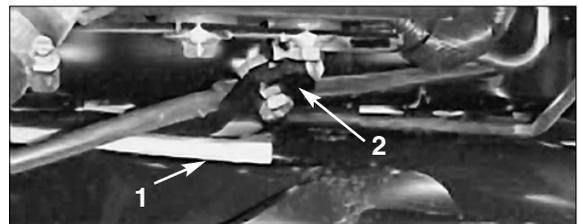
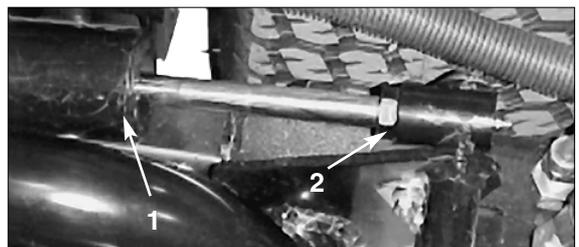

Figure 4
Figure 5
3. Start the engine, raise the decks and check to make sure clearance between the wear strap on top of the rear cutting unit wear bar and the bumper strap is 0.51–2.54mm (.020”–0.10”) (Fig. 4). If clearance is not in this range, adjust the rear cylinder to attain clearance. To adjust the cylinder, lower the cutting units and back off the jam nut on the cylinder (Fig. 5). Grasp the cylinder rod close to the nut with a pliers and cloth and turn the rod. Raise the cutting units and check clearance. Repeat the procedure if necessary. Tighten the clevis jam nut.